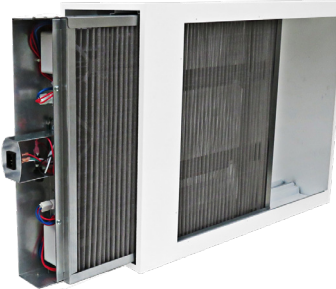

Fig. 11
3. Remove inside module from outer cabinet. (Fig. 11)